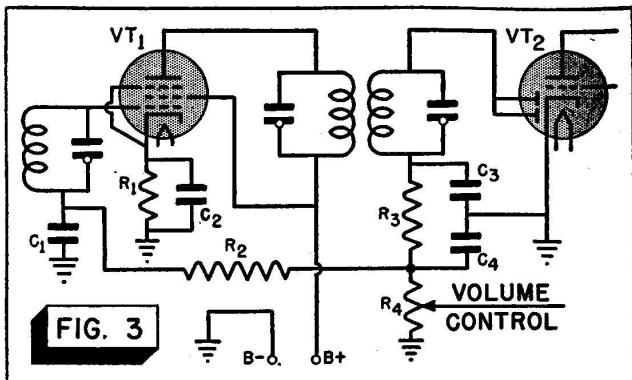

FIG. 3
► An open a.v.c. filter condenser, such as C_1 in Fig. 3, can also cause weak reception. Normally, the signal applied to the grid of tube VT_1 reaches ground through condenser C_1 —a relatively low-impedance path. If C_1 opens, however, the signal must reach ground through resistors R_2 and R_4 . These form a high-impedance path, over which much of the signal is dropped; consequently, the signal output of tube VT_1 is seriously reduced.